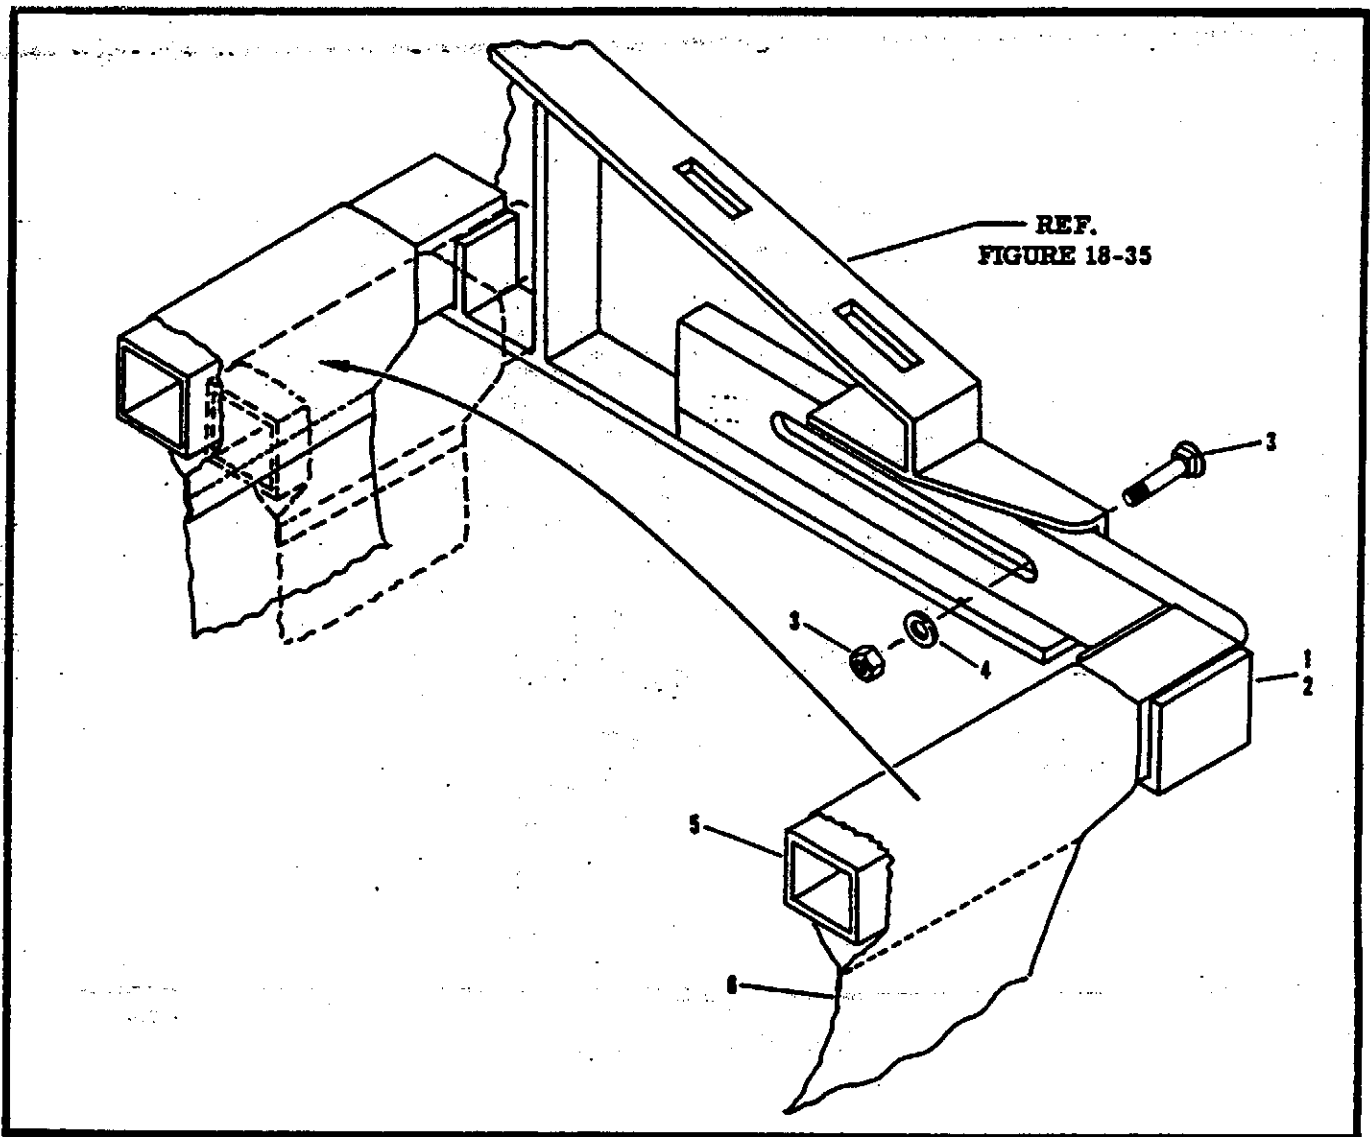

Figure 42. Bibb Bar Installation
BIBB BAR. Refer to Figure 42. No drilling is required for installation of the optional bibb bar. Mount the RH and LH bibb bar brackets (1 and 2) onto the feed table brackets using one 1/2-inch carriage bolt (3) in each. Install the head of the bolt towards the outside of the ironer and a 1/2-inch washer (4) under the 1/2-inch nut (3) at the inside of the feed table brackets. Thread a bibb bar (5) through the 4-3/4-inch hem on each end of the bibb (6). Place the bibb bar assembly on the ironer, one bar below and to the rear of the doffer roll and the other bar in the channels of the bibb bar brackets. Adjust the brackets outward according to the type of work to be performed and tighten the 1/2-inch nuts. When the Feedmaster spreader device is used, slide the brackets inwards towards the ironer and mount the bibb bar next to the one under the doffer roll.